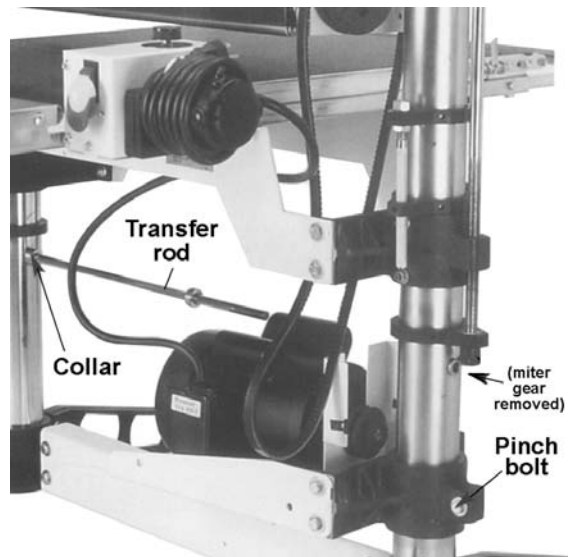

Figure 32
3. Use a flat blade screwdriver to pry off the protective cap over the inboard miter gear, and loosen the set-screw in the gear's collar. Remove the miter gear and loosen outboard collar (Figure 32). Slide cross bar toward outboard side as shown.
4. Loosen v-belt tension by loosening pinch bolt in motor support (Figure 32) and raise motor. Remove v-belt from pulleys.